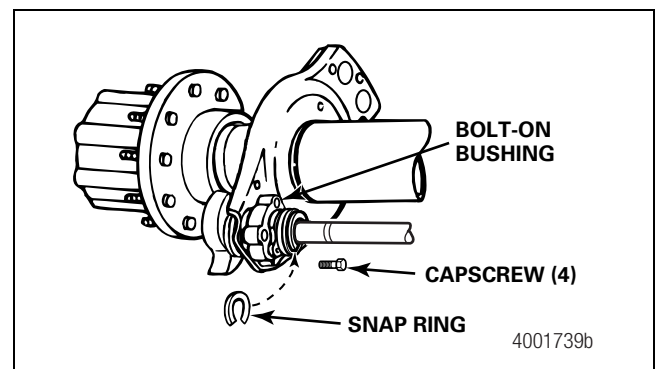

Figure 5.3
2. Remove the snap ring at the INBOARD side of the bolt-on bushing. Remove the four capscrews from the bolt-on bushing. Figure 5.3.